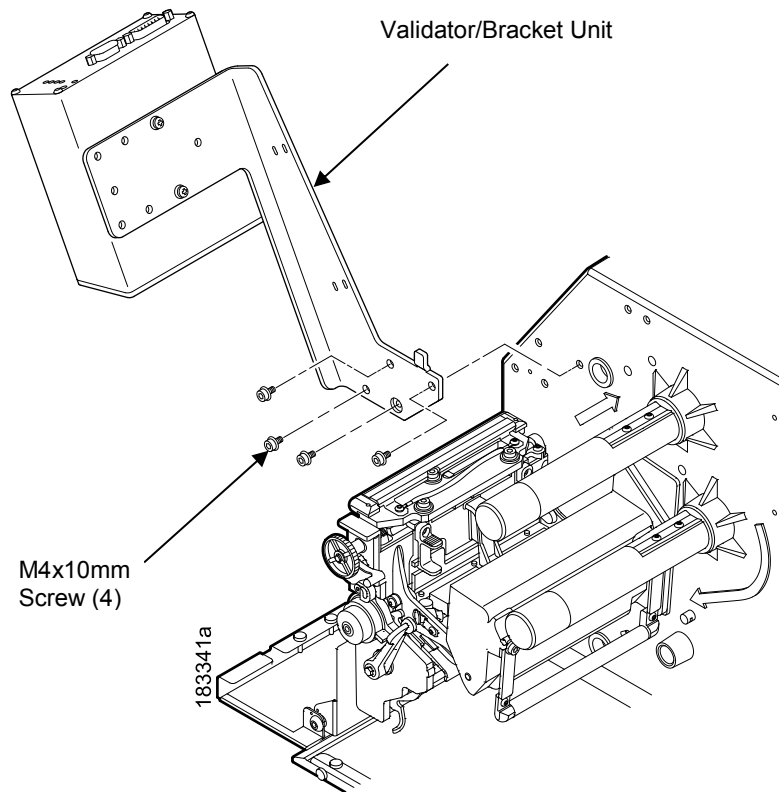

Figure 20 Attaching the Validator/Bracket Unit to the Printer (T8)
4. Using four M4x10mm screws (provided), attach the validator/bracket unit to the printer frame as shown in Figure 20.